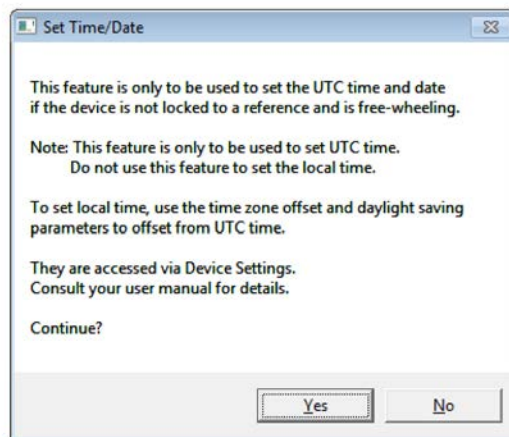

Figure C.27: Set Time/Date
- 10 A message will be shown (see Figure C.27).